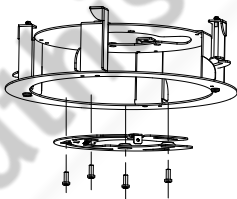

Figure 2-57 Fix the Base Plate to In-ceiling Bracket
3. Align the cable holes of the base plate to the cable holes of the in-ceiling bracket and then fix the base plate onto the bracket with the four screws in the package (supplied), as shown in Figure 2-57.